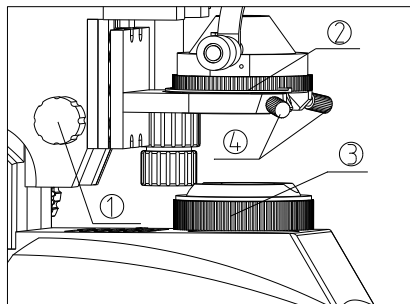

Fig.7
(1) Rotate the condenser up-down knob ① to raise it to the highest position. (See fig.7)
(2) Rotate the 4X objective into the light path.
(3) Rotate the upper diaphragm ring ② in a counterclockwise direction and move to the smallest setting. Rotate the Kohler diaphragm ring counterclockwise ③ and you will see the image of field diaphragm from the eyepieces.
(4) You want to see the circle of light closest to the center. If it is centered go to section 4-8, if not go to the next step.